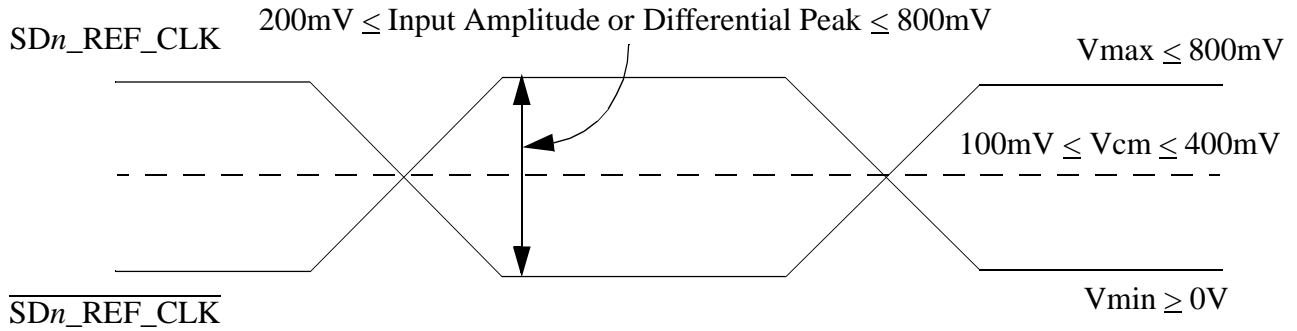

Figure 40. Differential Reference Clock Input DC Requirements (External DC-Coupled)
- For **external DC-coupled** connection, as described in section 13.2.1, the maximum average current requirements sets the requirement for average voltage (common mode voltage) to be between 100 mV and 400 mV. Figure 40 shows the SerDes reference clock input requirement for DC-coupled connection scheme.